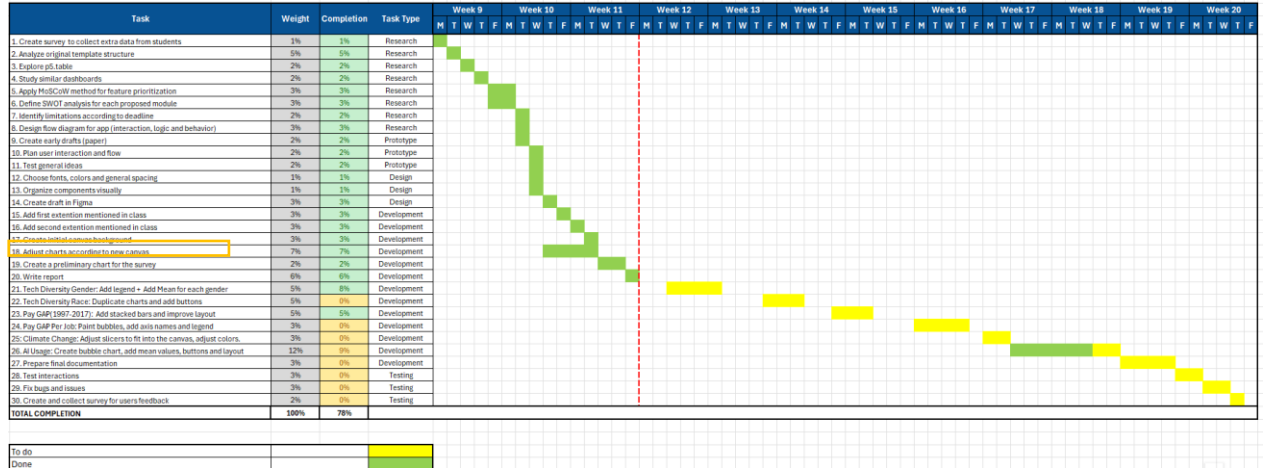

Figure 1 - Gantt Chart
For example, the item 19 from Figure 1 was broken down into: